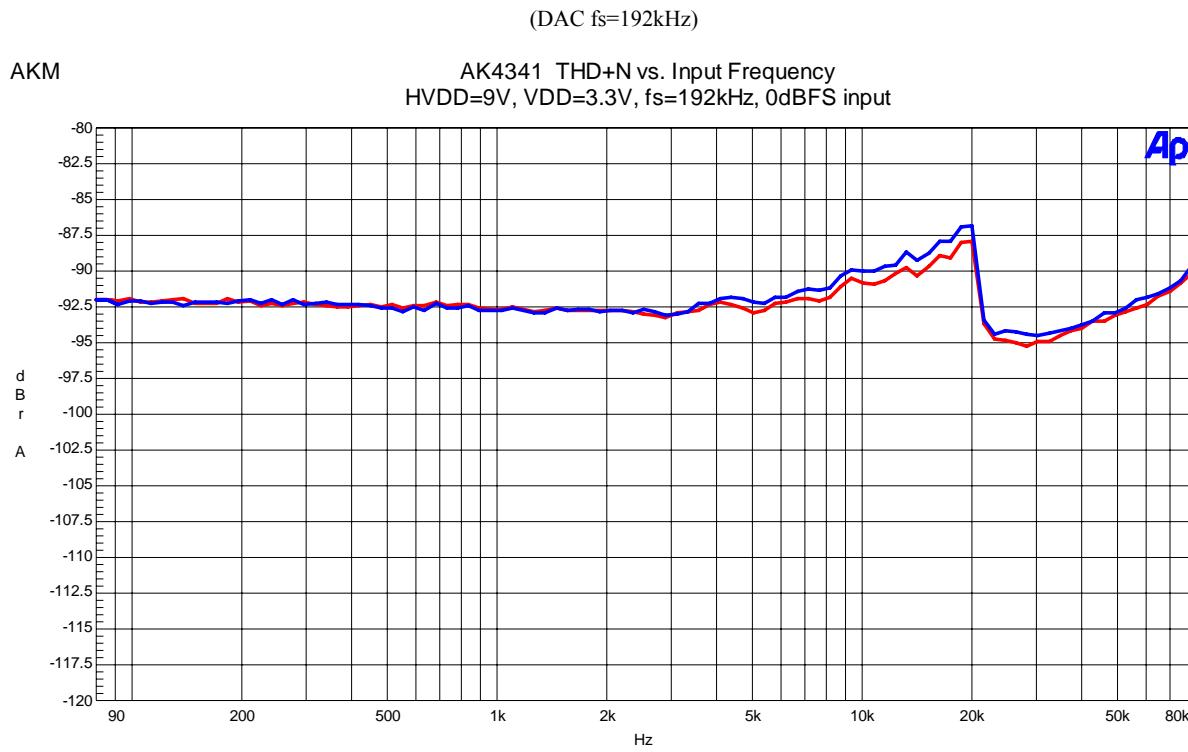

Figure 33. THD+N vs Input Frequency (Input Level=0dBFS)
- Figure 33. THD+N vs fin (Input Level=0dBFS)